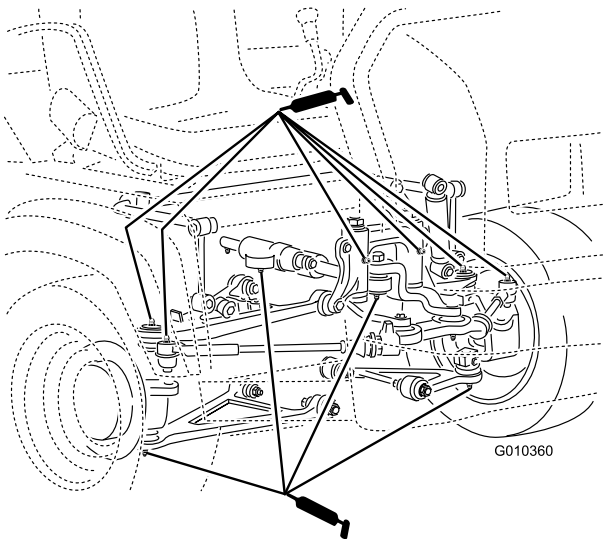

Figure 40
- Ball joints (4), tie rods (2), pivot mounts (2) and steering cylinder (2) as shown in Figure 40